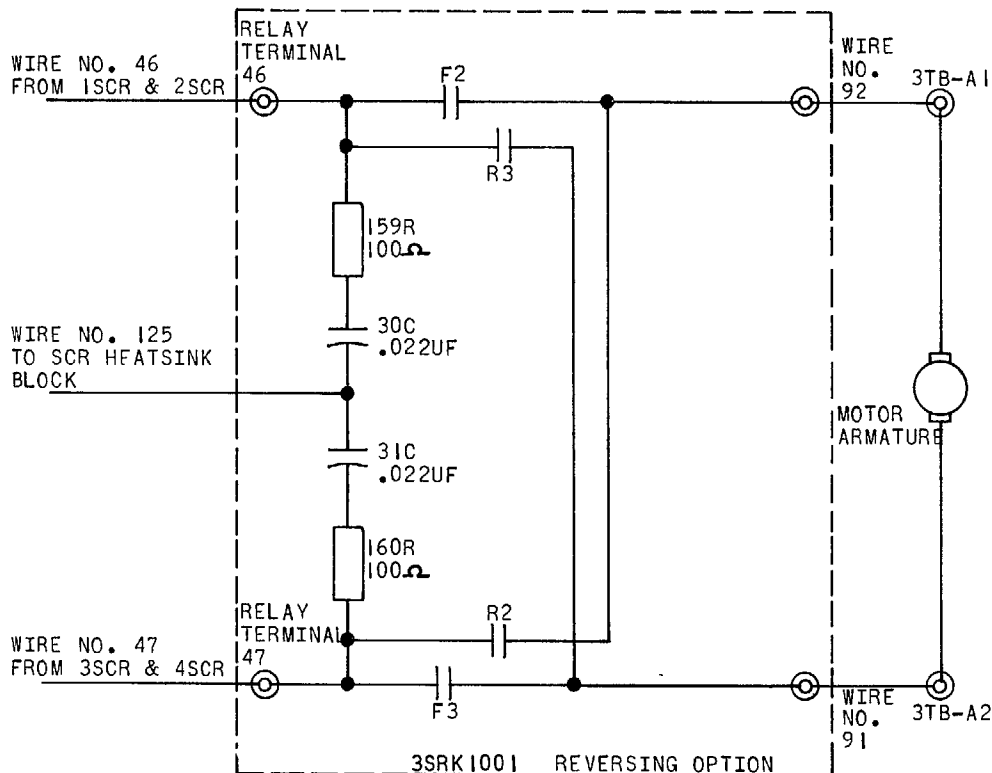
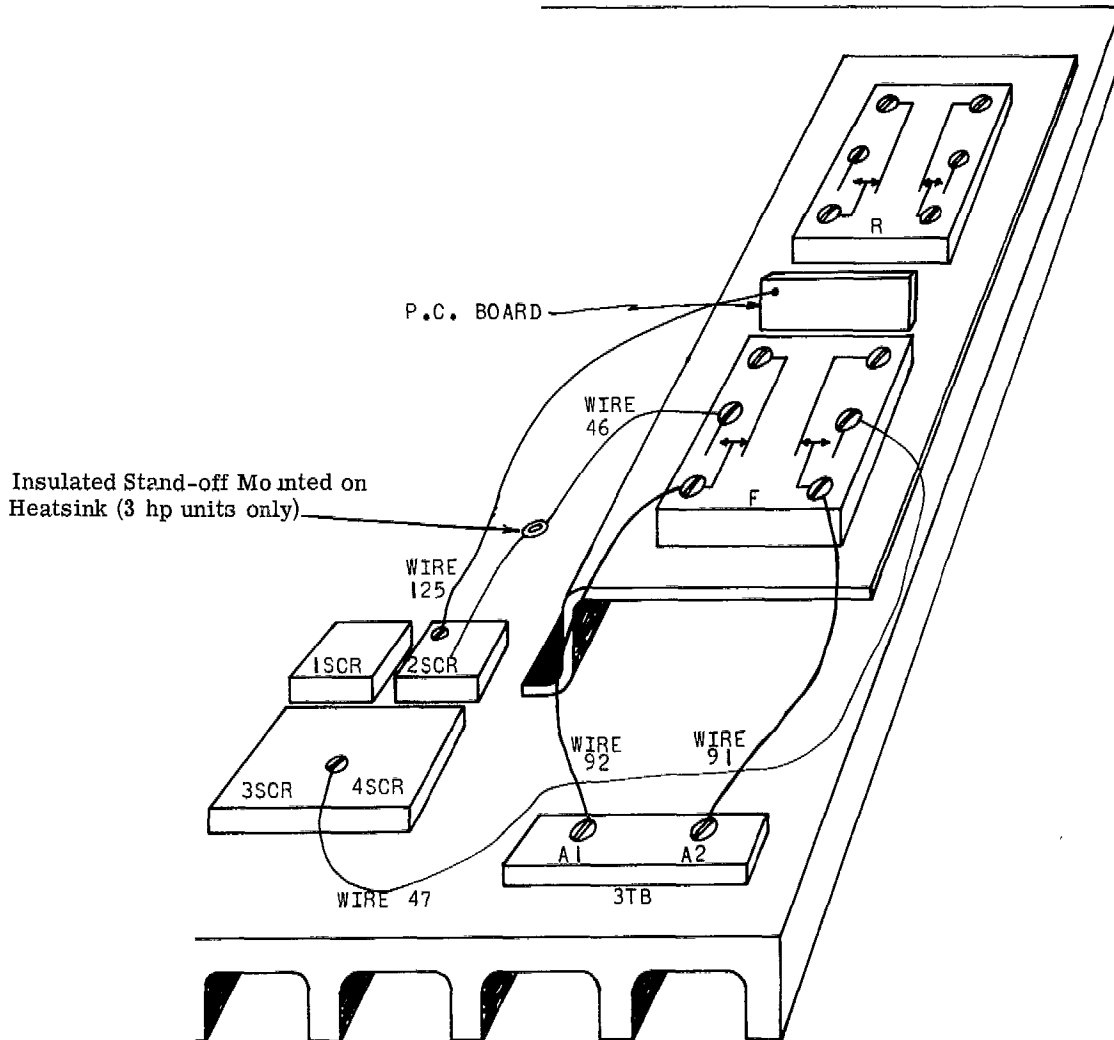

Figure 1. Motor Armature Circuit with 3SRK1001 Reversing Option Installed
Figure 2. Customer Connection Diagram for 3SRK1001 Reversing Option
For proper mounting location and orientation, refer to Figure 2 in instruction book GEK-36391. Hardware for securing the bracket to the controller chassis is provided with the option.
The motor armature circuit must be connected as shown in Figure 1. Refer to Figure 2 for terminal locations on the contactors. After the option has been mounted, proceed with the following connection sequence.
1. Locate wire number 46 which runs from the SCR's to terminal 3TB-A1. Note: On 3 hp units, wire 46 runs from the SCR's to the insulated stand-off and then to 3TB-A1. Disconnect this wire from 3TB-A1 and connect it to contactor terminal 46 on the reversing option (see Figure 2).
2. Locate wire number 47 which runs from the SCR's to terminal 3TB-A2. Disconnect this wire from 3TB-A2 and connect it to contactor terminal 47 on the reversing option (see Figure 2).
5. Locate wire number 125 (AWG. 18) which is factory connected to the reversing option. Connect the free end of wire number 125 to terminal 125 on the SCR heat sink block as shown in Figure 2.